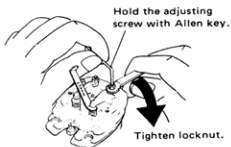

Fig. 40
- 4) Re-tighten the locknut while holding adjusting screw with the Allen key. (See Fig. 40.)